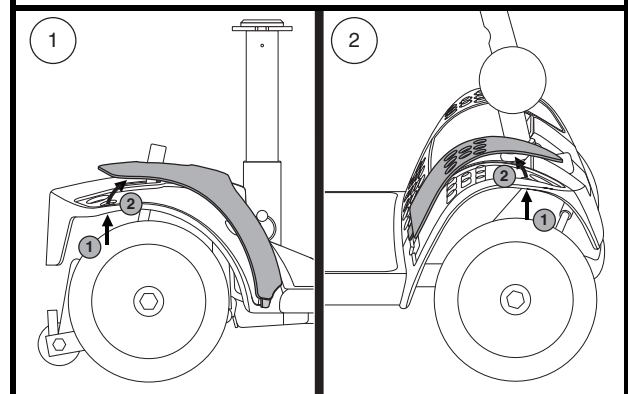

Figure 11. Fender Panels
2. Push through the hole to separate the piece from the Travel Scooter. See figure 11.
NOTE: When installing the front and rear fender panels, make sure the tab at the bottom of each panel is inserted into the tab opening before securing the panel. See figure 11.